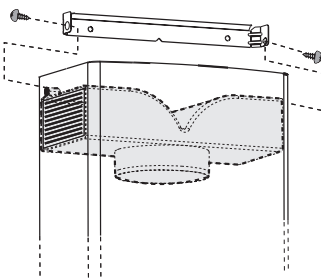

Fig. 2
- Fix the deflector using 2 screws $\varnothing 2,9 \times 13$ mm. **Fig. 2.**